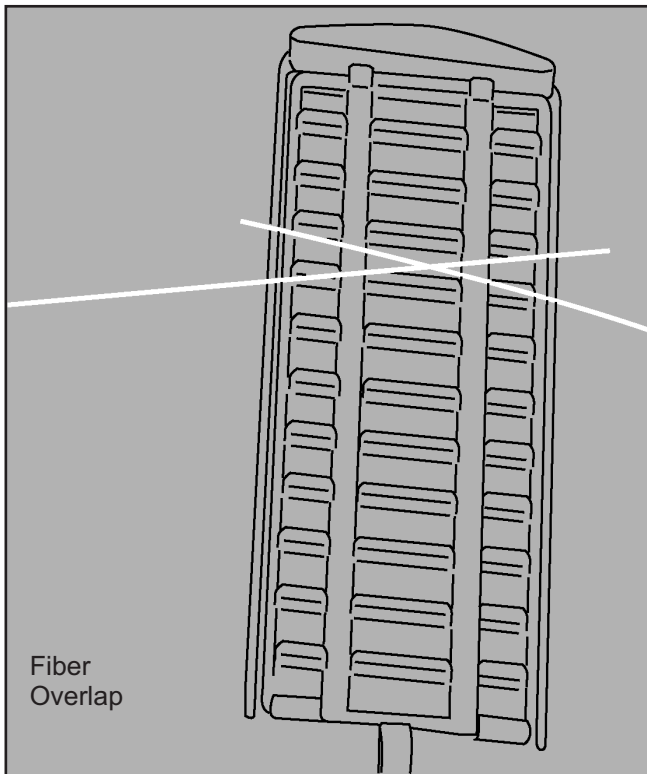

Figure 14
14. By color code, select the individual fibers from the “express” and “drop.” Buffer tubes should be spliced and route around the SLIDE-N-LOCK splice tray in opposite directions. Allow up to 1 meter (39”) of fiber to be stored each side of the splice. Cut an overlap of approximately 60mm (2.3”) at the point of splicing. (Figure 14)